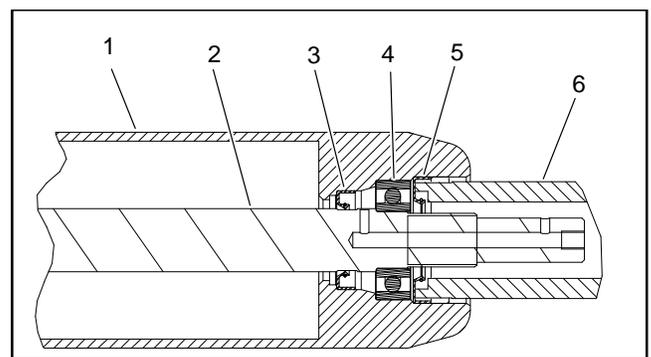

Figure 17
D. Carefully install first outer seal into roller tube making sure that seal lip (and garter spring) faces end of tube. Use bearing/outer seal tool (see Special Tools in this chapter) and soft face hammer to lightly seat seal (Fig. 17). Make sure that shaft and bearings still freely rotate after seal installation.